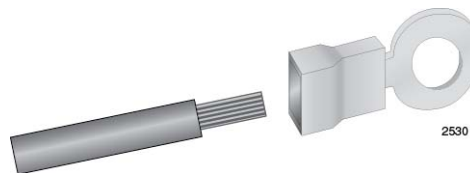

Figure 102. Attaching the Stranded Grounding Wire to the Grounding Terminal
2. Insert the grounding wire into the grounding terminal provided with the power supply and use a crimping tool to secure it to the grounding terminal. See Figure 102,